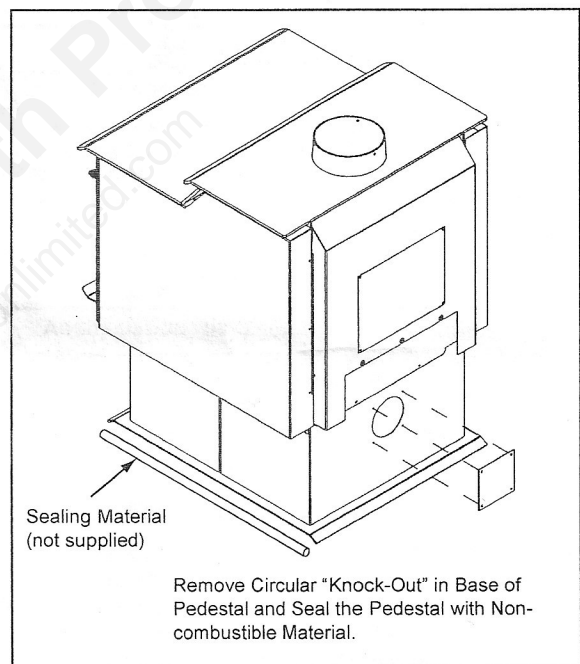

Figure 7 - Alternate Floor Installation
1. **Rear:** Remove the access cover on the back of the pedestal and discard. **Figure 7.**
You must seal off the pedestal with non-combustible material (not supplied). The goal is to seal the pedestal so no room air can leak into the pedestal and to seal for cold air infiltration. **Figure 7.**